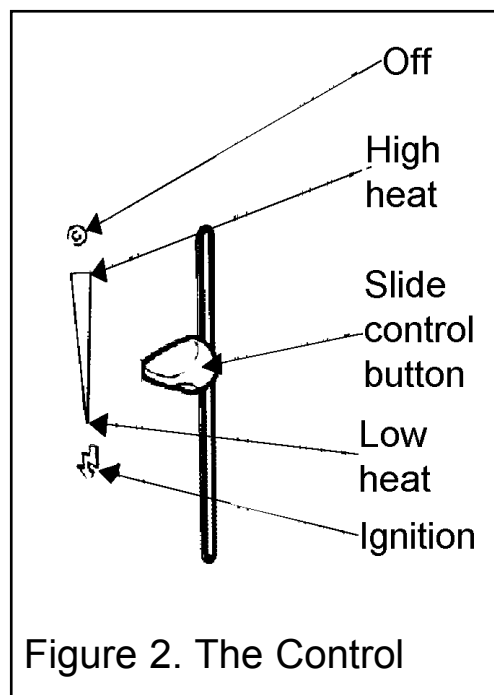

Figure 2. The Control
The slide control is shown in figure 2.
3. If low heat is required, release the button. The button will automatically spring up to the low heat position shown in figure 2 (See note i below).
4. For a higher heat level slide the button upwards. The burner flames and heat output will gradually increase until the button reaches the high heat position shown in figure 2. When the button reaches the high heat position you will feel a check to its movement.